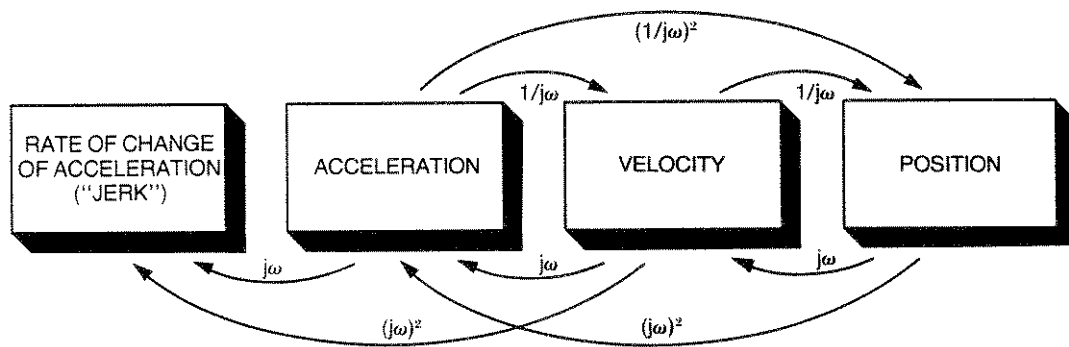

Fig. 10.3 Use of Multiplication Factors
**Applications.** Where a required parameter cannot be measured directly, it is often possible, by using a suitable transducer, to measure a related function. One of the multiplying factors can then be applied to the results to derive the required data. For example, Fig. 10.3 illustrates how various mechanical parameters can be derived from one another by using the  $\times \omega^n$  factors.